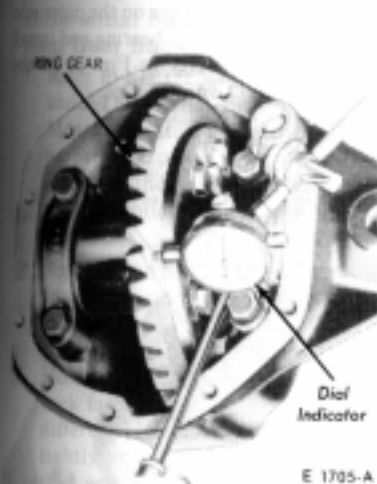

FIG. 16 Checking Differential End Play
3. Mount a dial indicator on the axle housing, with the indicator button against the ring gear (Fig. 16).